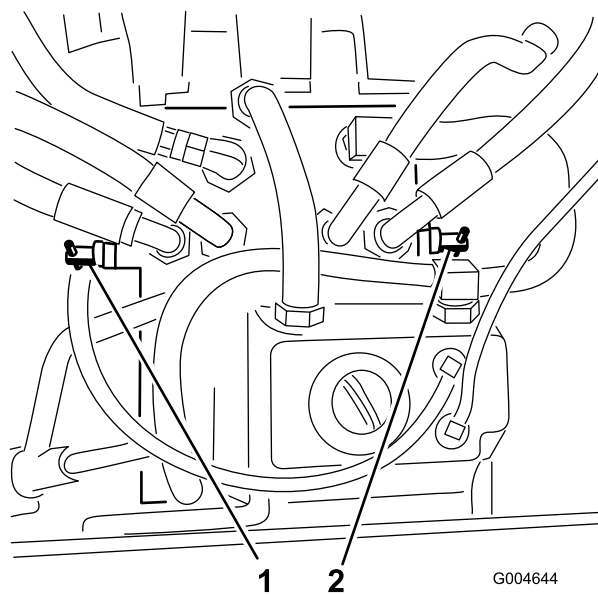

Figure 53
3. Rotate each bypass valve counterclockwise 1 turn (Figure 53).
Rotate each bypass valve clockwise 1 turn and hand-tighten them (Figure 53).